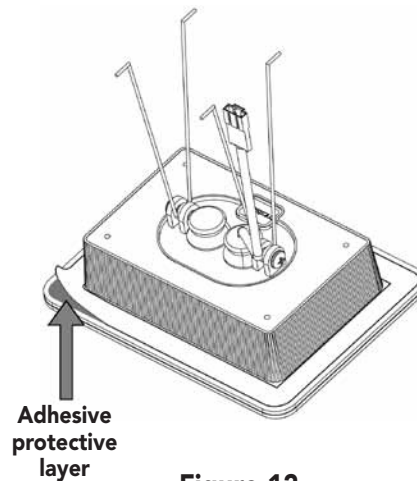

Figure 12
3. Peel off and discard the protective layer from the fixture's double-stick adhesive (Figure 12).